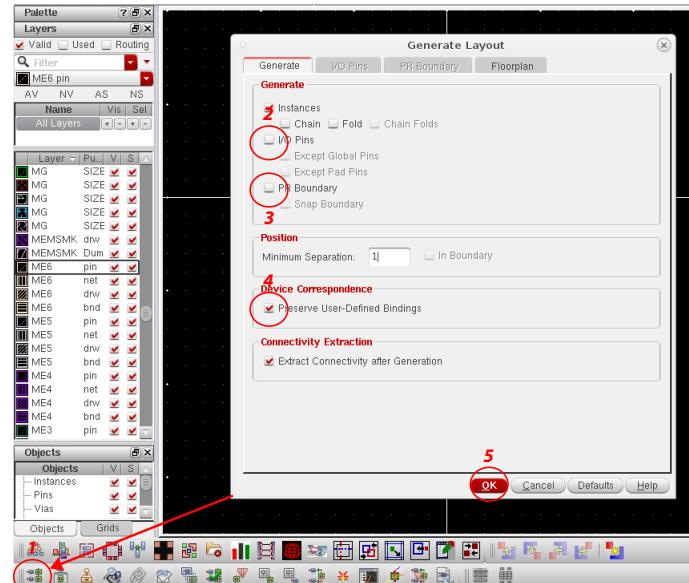

Figure 3: Instantiating the transistors.
- Instantiate your transistors. To do so, from the layout editor Command Toolbar, choose Generate All From Source (as in Fig. 3), and set it up to generate only the instances and to preserve the device correspondence (mapping between the schematic and layout) and click OK.